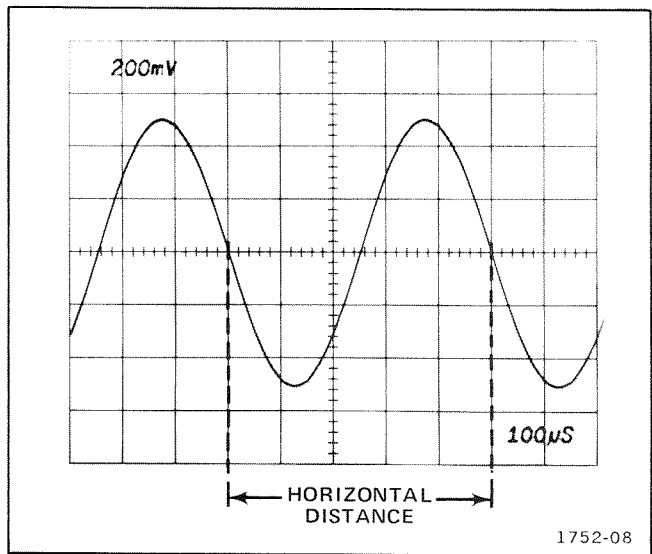

Fig. 2-7. Measuring the time duration between points on a waveform.
5. Set the TIME/DIV OR DLY TIME switch to the fastest sweep rate that displays less than 8 divisions between the time measurement points (see Time Measurement discussion and Fig. 2-7).
Example: Assume that the distance between the time measurement points is 5 divisions (see Fig. 2-7), and the TIME/DIV OR DLY TIME switch is set to .1 ms.
Example: The frequency of the signal shown in Fig. 2-7 which has a time period of 0.5 millisecond is: